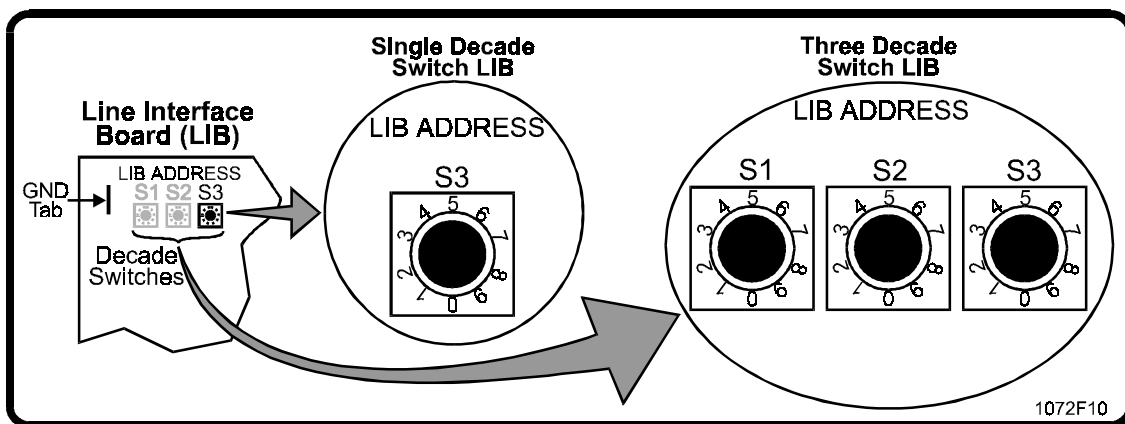

Figure 11. LIB Types and Decade Switch Arrangements.
- Each Line Interface Board (LIB) must have a unique 3 digit address number to operate properly with the Ovation system. These addresses are set using the "decade" switch (or switches) located at the top of the LIB (see Figure 11).